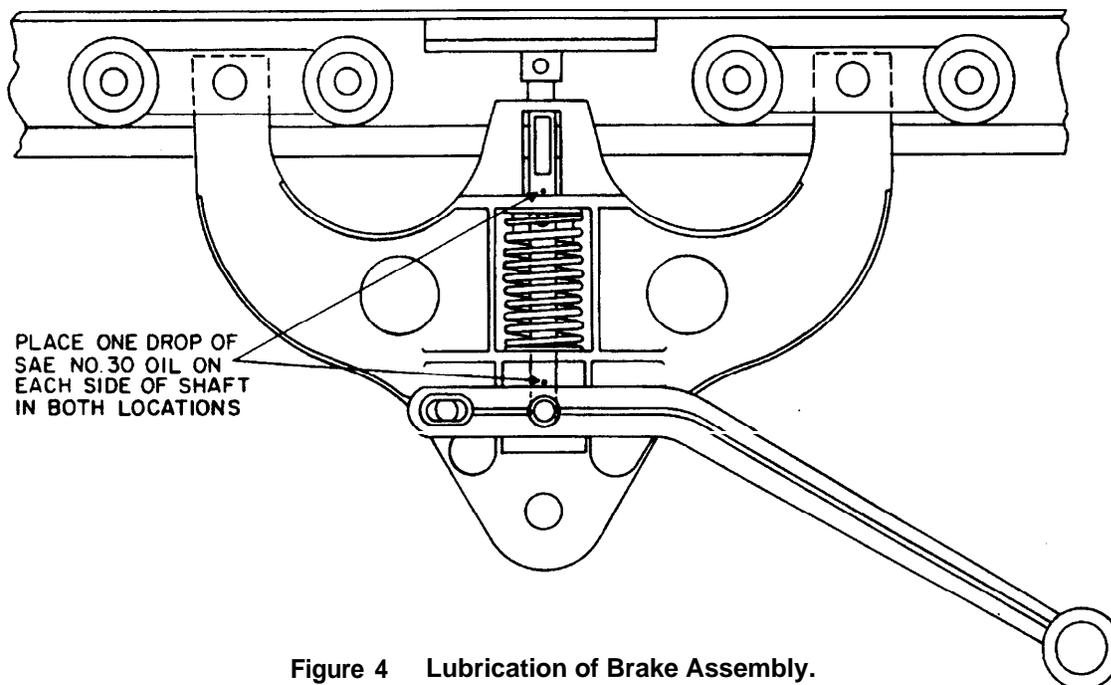

Figure 4 Lubrication of Brake Assembly.
4.15 If necessary, the brake assembly is lubricated to help free the movement of the brake arm. To lubricate the brake assembly, use the oil can and the SAE No. 30 oil. Place one drop of oil on each side of the brake shoe shaft directly above the lever arm. Place one drop of oil on each side of the brake shoe shaft directly above the spring mount. Refer to Figure 4. Avoid excess lubricant, as it tends to collect dust and dirt. Wipe all excess oil off of the trolley assembly.